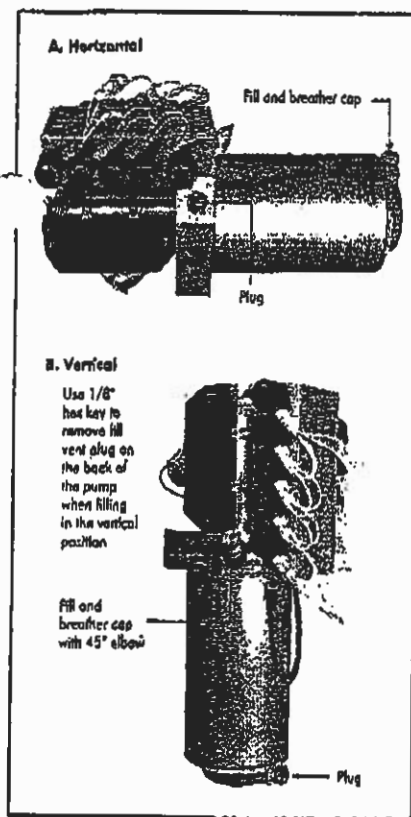

Figure 1b
- b. Fluid level may also be checked visually by removing the breather cap at the tank fill of the reservoir. (Fig.1b)